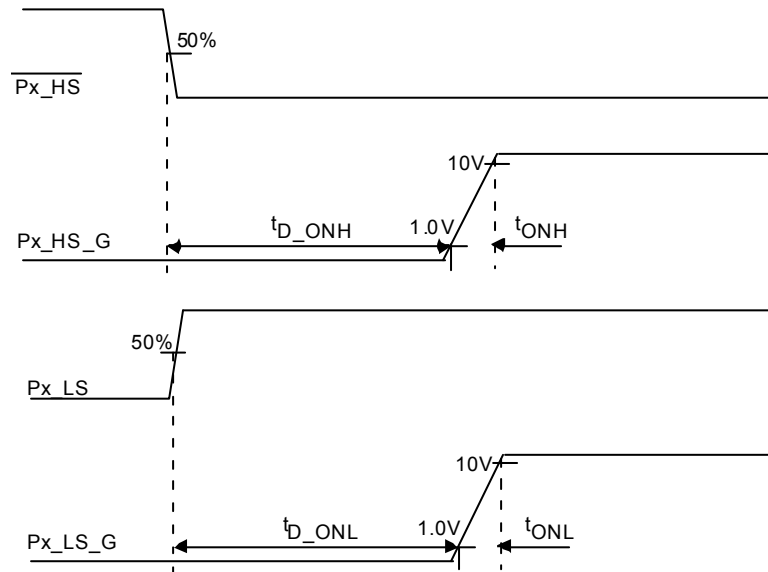

Figure 7. Driver turn-on time and turn-on delay
| t_{ONH} | High-side turn on time • Transition time from 1.0 V to 10 V, load: $C = 500\text{ pF}$, $R_{\text{G}} = 0$, (Figure 7) | – | 20 | 35 | ns | (42) |
| $t_{\text{D_ONH}}$ | High-side turn on delay • Delay from command to 1.0 V, (Figure 7) | 130 | 265 | 386 | ns | (43) |
| t_{ONL} | Low-side turn on time • Transition time from 1.0 V to 10 V, load: $C = 500\text{ pF}$, $R_{\text{G}} = 0$, (Figure 7) | – | 20 | 35 | ns | (42) |
| $t_{\text{D_ONL}}$ | Low-side turn on delay • Delay from command to 1.0 V, (Figure 7) | 130 | 265 | 386 | ns | (43) |